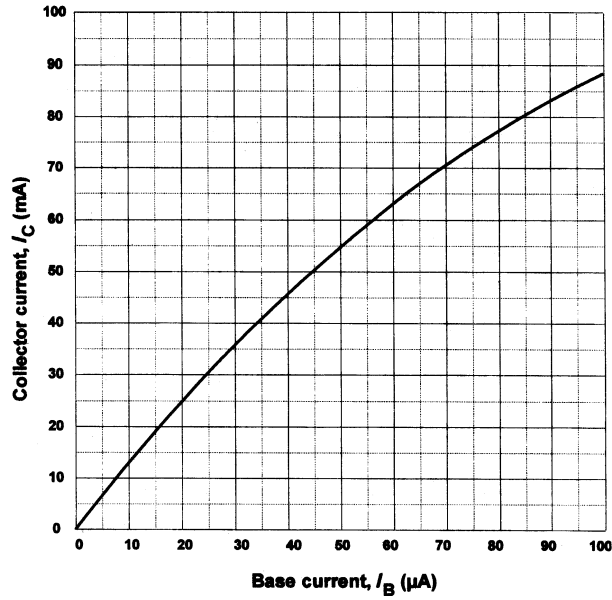

Figure A2.16
36. The transfer characteristic of a transistor is shown in Fig. A2.16. Determine (a) the static value of common-emitter current gain at  $I_C = 50\ \text{mA}$  and (b) the dynamic (small-signal) value of common-emitter current gain at  $I_C = 50\ \text{mA}$ . [Page 127]